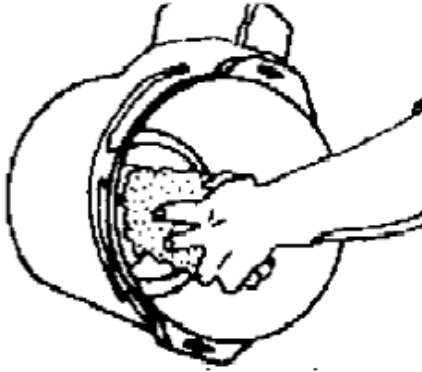

Figure 3-27
3.4.5.7 Air cleaner checking (Figure 3-27)